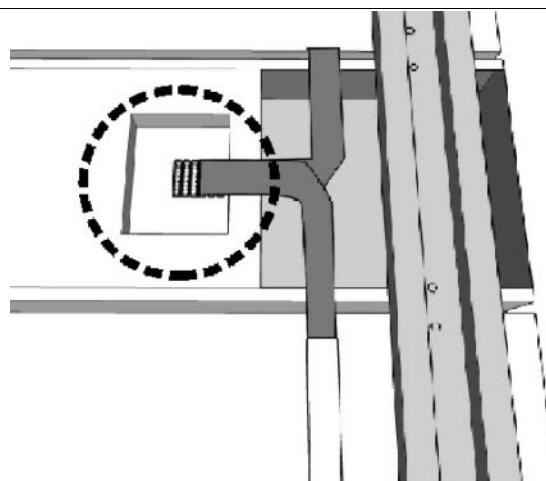

Fig. 3.3: Interior of connection compartment
- Connect the flat cables attached to the modules to the electronic board connectors (Fig. 3.3) housed in the connection compartment.